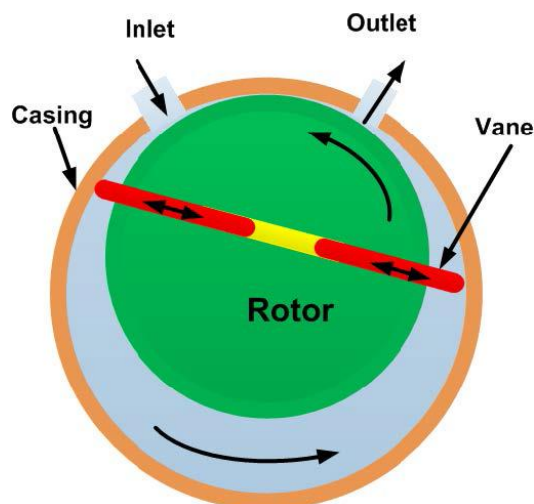

Fig.3.4 - working principle of vane pump
- ▶ The schematic of the vane pump working principle is shown in figure 3.4 Vane pumps generate a pumping action by tracking vanes along the casing wall.